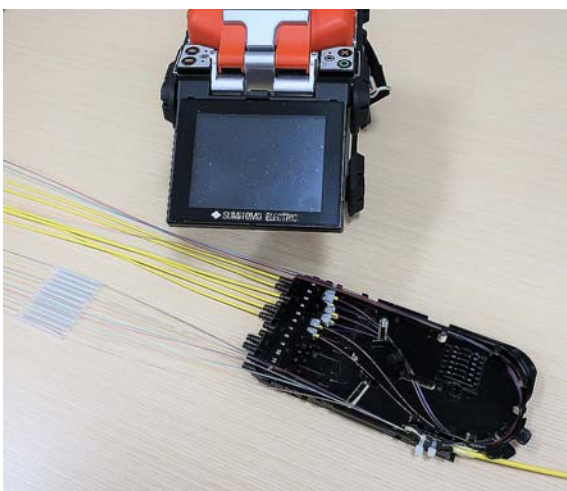

Figure 18. Typical Splice Setup
18. Strip, clean, and splice fibers following recommended method (Figure 18).